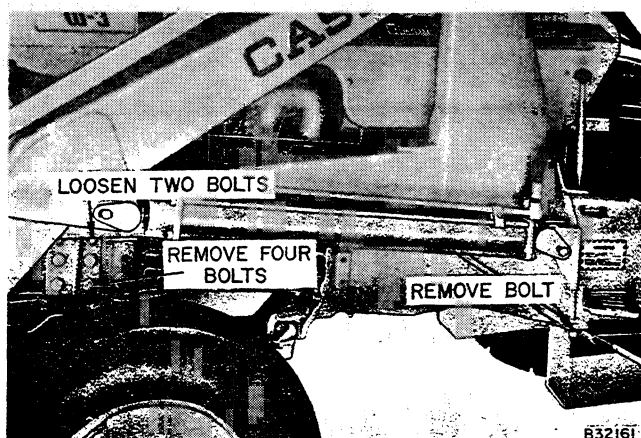

Figure 32 - Location of Front Mounting Bolts
3. Remove bolts at front and rear of unit as shown in Figures 32, 33, and 34.
4. Refer to Figures 32, 33, 34, and 35, install bolts and torque to specifications shown below.